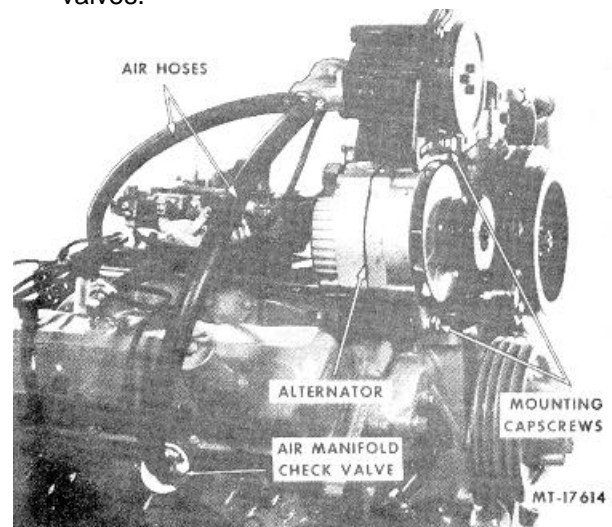

Fig. 14
9. Remove alternator by removing two mounting capscrews (Fig. 14). Also remove air hoses from divert valve and air manifold check valves.